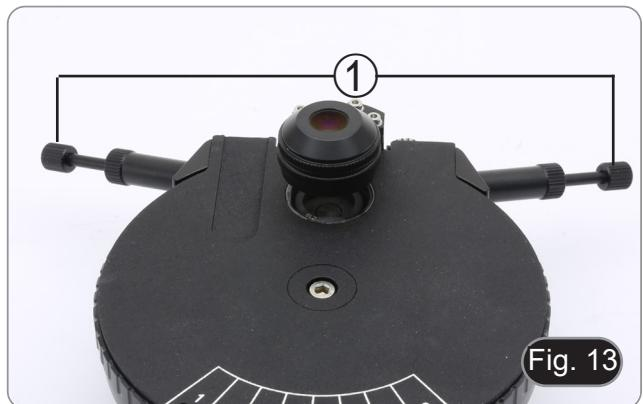

Fig. 13
- 5. Using the centering screws on the condenser ① (Fig. 13) centre the dark field ring until the field of view is evenly illuminated.
7. Using centering screws on the condenser ① (Fig. 13), center the phase rings to make the bright ring ② be concentric to the dark ring ③. (Fig. 16)